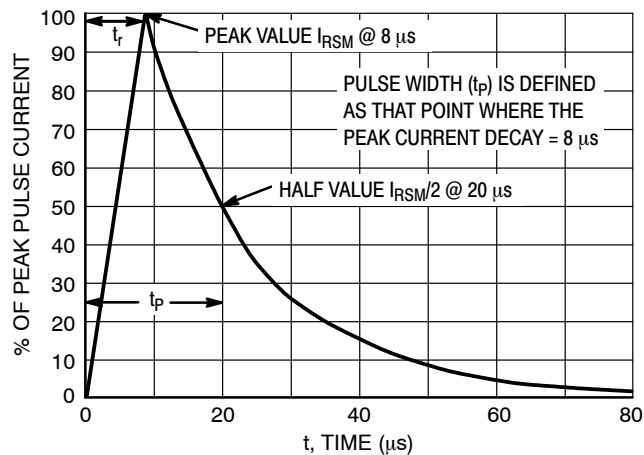

Figure 5. 8 x 20 μ s Pulse Waveform
- Surge current waveforms per Figure 5.